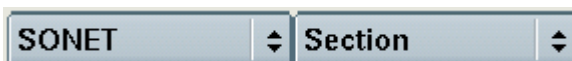

Figure 2 Result Group and Category buttons
- 7 Use the Group and Category buttons to specify the type of results you want to observe. Figure 2 illustrates buttons for a standard SONET application.